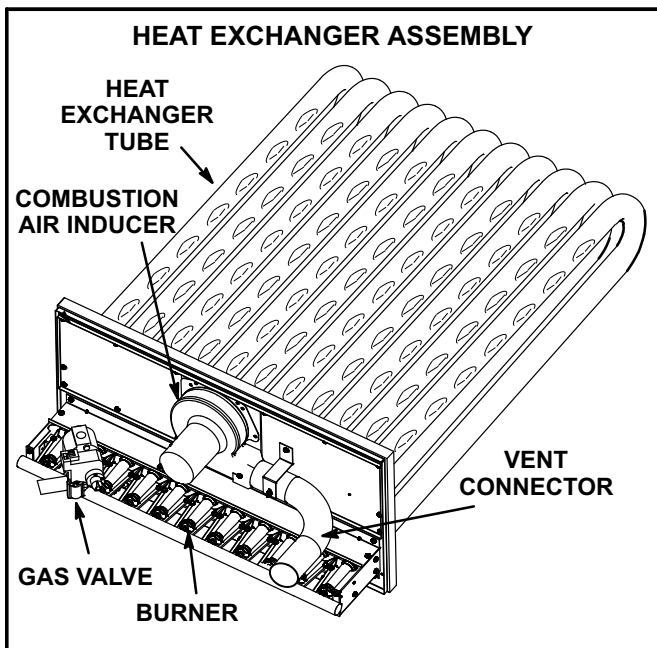

FIGURE 42
- 3- Remove and retain screws securing combustion air inducer to flue box. Remove and retain two screws from bracket supporting vent connector. See figure 42.